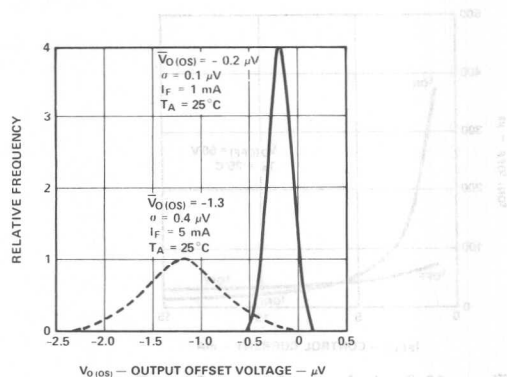

Figure 7. Output Offset Voltage Distribution.
3.  $V_{\alpha OS}$  is a function of  $I_{FON}$  and is defined between pins 8 and 5 with pin 5 as reference.  $V_{\alpha OS}$  must be measured in a stable ambient. See Figure 7 for variation of  $V_{\alpha OS}$  around the typical value.